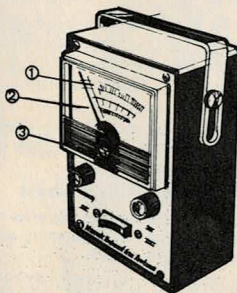

Figure 2
- With leads disconnected, adjust meter zero adjustment screw (3) to left or right until pointer (2) is on top of the graduation for 16 on the gasoline scale. (See Figure 2.)